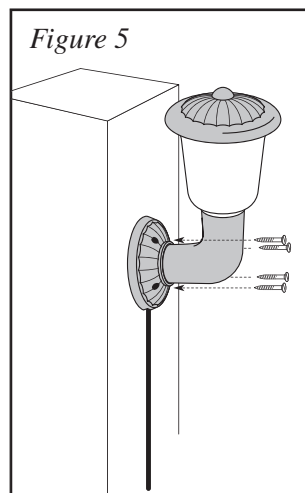

Figure 5
6. Use the self tapping screws provided to attach the assembled fixtures to the gate posts. Additional hardware may be required depending on the type of gate posts you have. See *Figure 5*.